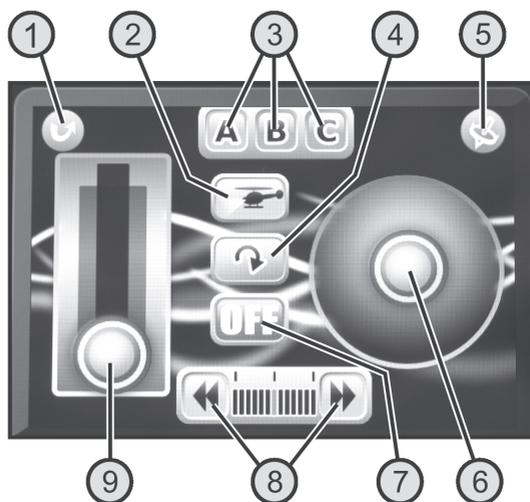
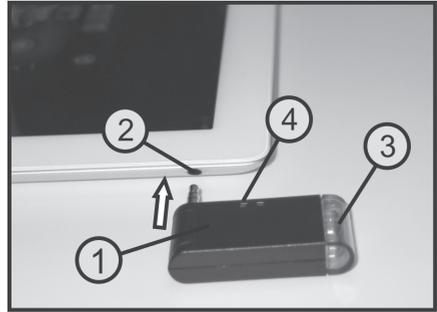
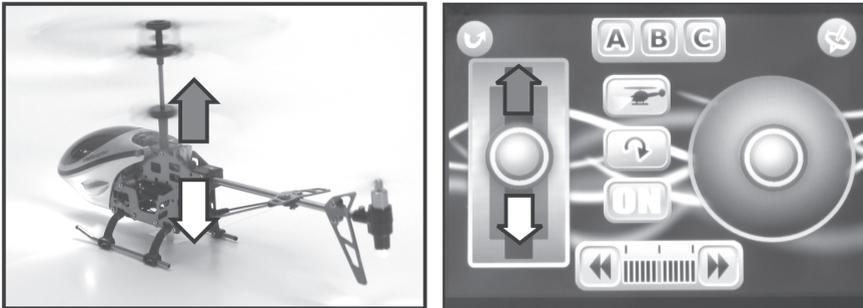

Figure 5
Figure 8
Figure 9
The display now shows the operating interface for helicopter control (see figure 5).
On demand, you may use the button for the reversing function (see figure 5, item 4) to horizontally turn the operating interface by 180°.
When operating the button for signal transfer of the IR adapter on the operating interface (see figure 5, item 7), the display switches from "OFF" to "ON". The blue LED at the IR-adapter lights up to check the activated signal transfer to the model helicopter (see figure 8, item 4).
Use the sender signal encoding buttons (see figure 5, item 3) to select the transmission channel "B" or "C".
With the pitch function you can control the flying height of the helicopter (see figure 9). For control, use the control area for rotor speed (also see figure 5, item 9). For this, move the left thumb from the bottom position up and back. Since the angles of attack of the rotor blades are not modifiable, setting the flying height is effected via a common speed modification of the two rotors.
The tail function is controlled with the left control area (see figure 5, item 6). If the control area is pushed slightly towards the left with the right thumb, the tip of the fuselage turns towards the left. If you steer towards the right, the tip of the fuselage turns likewise towards the right.
The tail function is also controlled with the control area for turning and direction control (see figure 5, item 6). If you push the control area slightly forward with the right thumb, the tail rises and the model flies forwards. If you push control area towards the back, the tail drops and the model flies backwards.
To switch to the motion sensors, activate the button for motion control (see figure 5, item 5). The button switches its background colour from grey to red when motion control is active.
The tail and nod controls now react to turning and tilting motions of the Apple® iPad, Apple® iPhone or Apple® iPod touch. The control area for tail and nod function (also see figure 5, item 6) serves as control display.